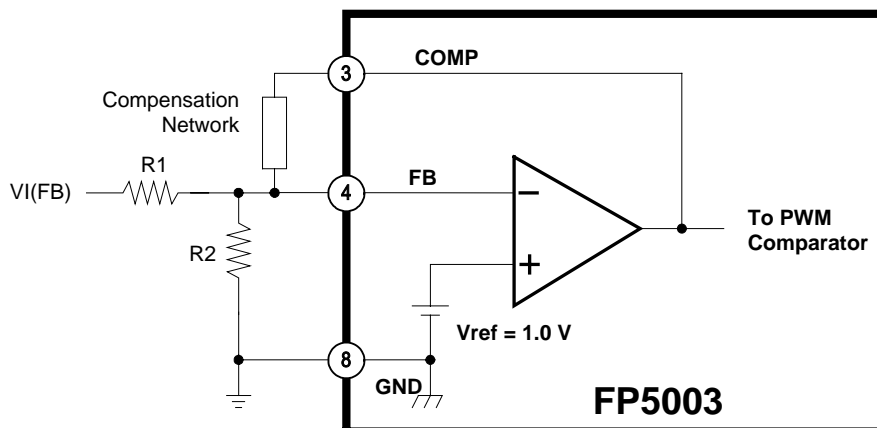

Figure 13. Error Amplifier with Converter Feedback Resistors
The error amplifier compares the feedback voltage from dc-dc converter output to the 1.0V reference and generates the error signal for the PWM comparator. The relation between VI(FB) and **FP5003** error amplifier pins are shown below (see Figure 13).